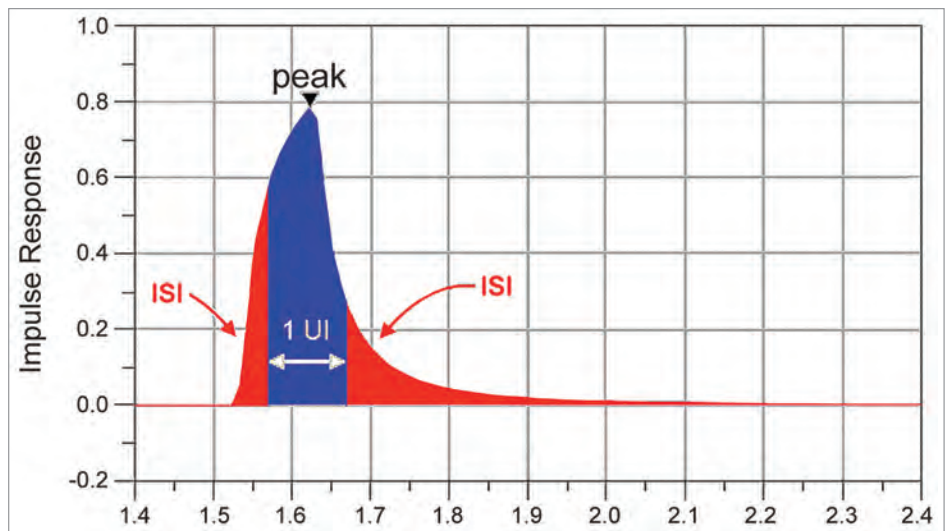

Figure 7. Interference penetrating to adjacent symbols.
Label one Unit Interval (UI) on the output impulse response. The center of the symbol could be at the peak of the symbol as shown in Figure 7. We can then find that interference labeled in red regions penetrating to adjacent symbols. It explains what Inter-Symbol-Interference means. ISI is the most critical factor impacting performance of a SERDES design.